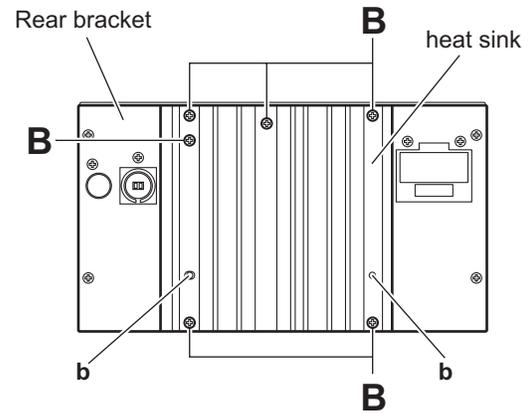

Fig.3
### 3.1.2 Removing the heat sink (See Figs.3 and 4)
- (1) From the back side of the main body, remove the six screws **B** attaching the heat sink. (See Fig.3.)
- (2) Remove the heat sink from the main body.
- When attaching the heat sink, set the projections **b** on the rear bracket in the holes of the heat sink. (See Fig.3.)
### 3.2.2 Removing the connector board (See Figs.3 to 5)